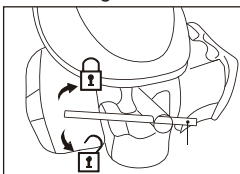

Fig. 30
2. Loosen the spark plug anti-clockwise using the spark plug wrench (33) and remove it carefully (Fig. 30).